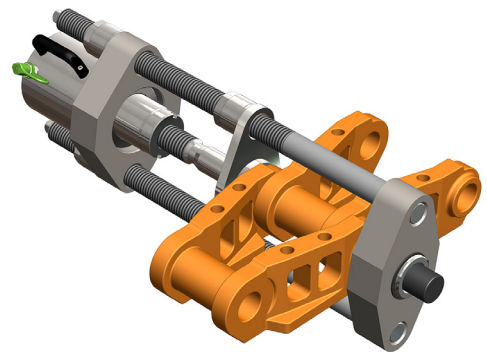

fig. 26
4. Close the pump relief valve, pump until the piston reaches its full stroke, Fig. 26.